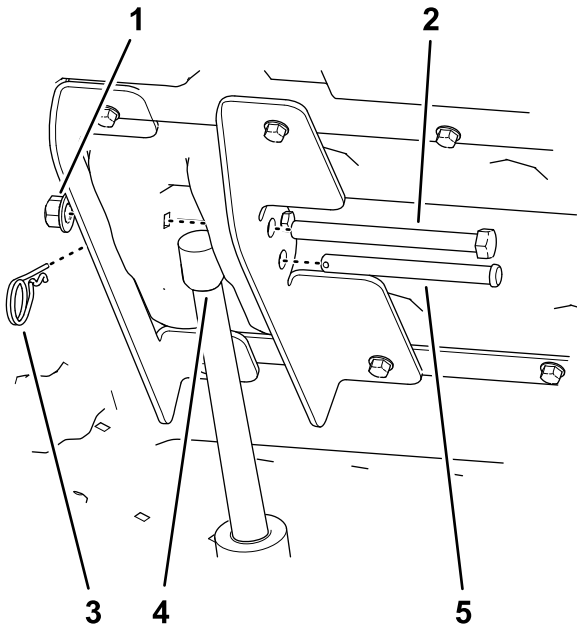

Figure 16
3. Secure the lift actuator rod to the inboard and outboard lift brackets using the previously removed hex-head bolt (1/2 x 5-1/2 inches), locknut (1/2 inch), clevis pin (3-1/2 inches), and hairpin cotter (Figure 16).